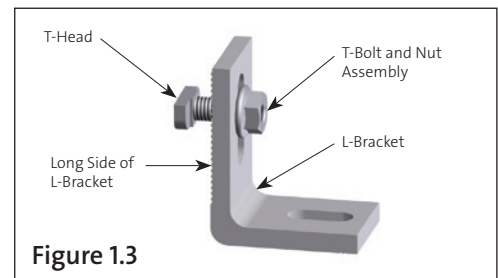

Figure 1.3
- 1.3. Pre-assemble T-Bolt and Nut Assembly ② on the long side of the L-Bracket ③ with the T-head on the outside as shown in **Figure 1.3**. Preassemble loosely, with anti-seize compound on threads.